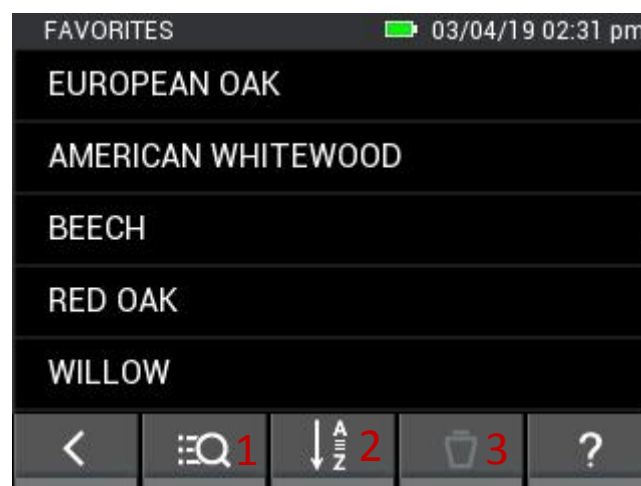

Figure 5-9: Editable list of wood favourites
When editing the wood favourites, you arrive at the following menu (Figure 5-9). It is possible here to add new favourites and remove existing ones. With button (1), a search for a wood type can be performed again. With button (2), the wood favourites list can be sorted alphabetically. Button (3) enables deletion of entries from the wood favourites list. By tapping and holding a material button in the favourites list, this can be moved up and down in the list by swiping.